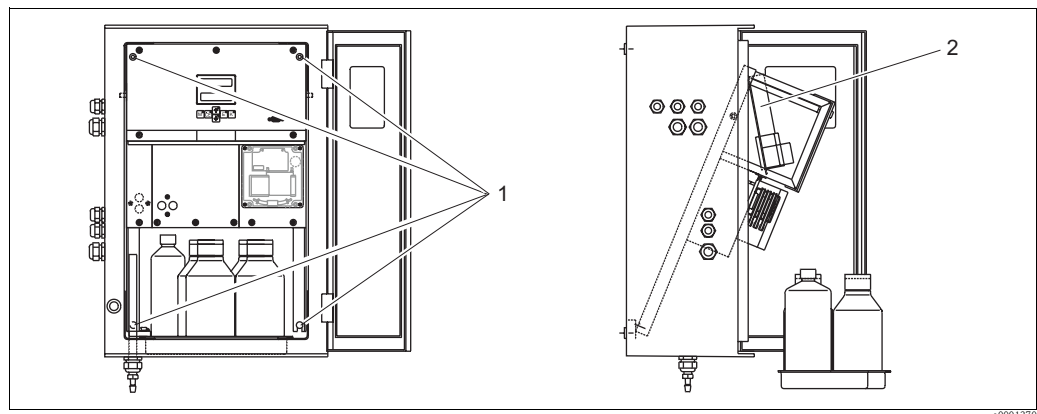

Fig. 15: Swing out of the analyser frame
1. Loosen the two lower Allen screws SW 6 by 3 to 4 turns (Fig. 15, pos. 1).
2. Unscrew the two upper Allen screws until the analyser frame swings out. Thus you can reach the terminal strip (pos. 2).